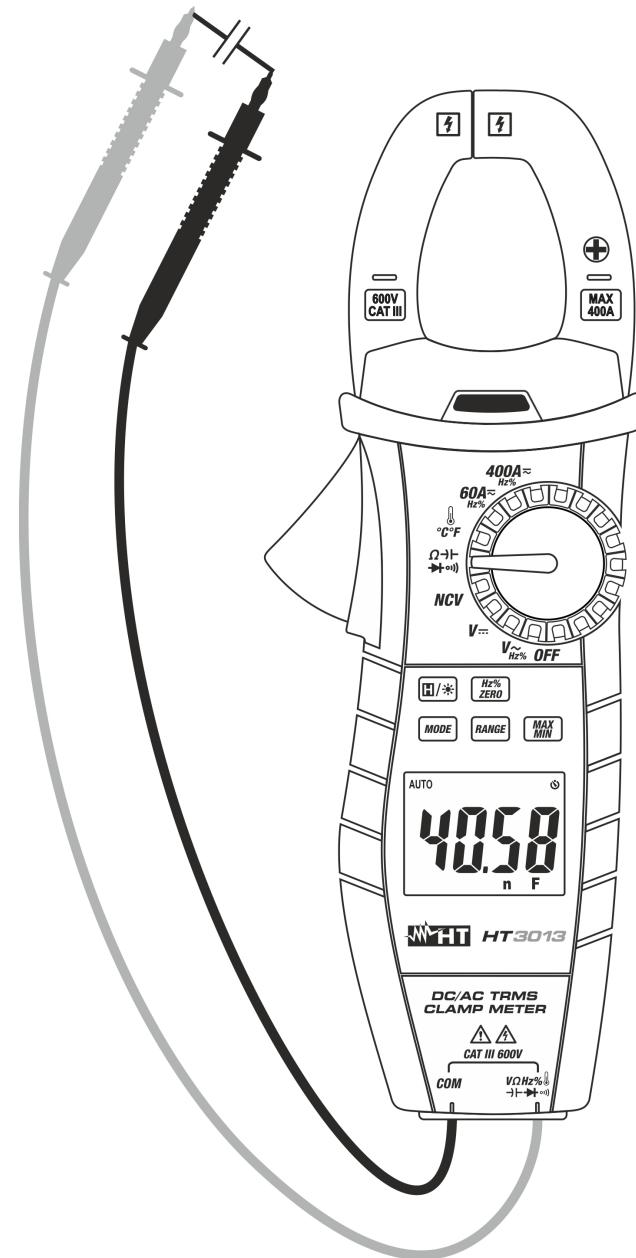

Fig. 9: Use of the instrument for capacitance measurement
4. Position the test leads in the desired points of the circuit to be measured (see Fig. 9). The display shows the value of capacitance.